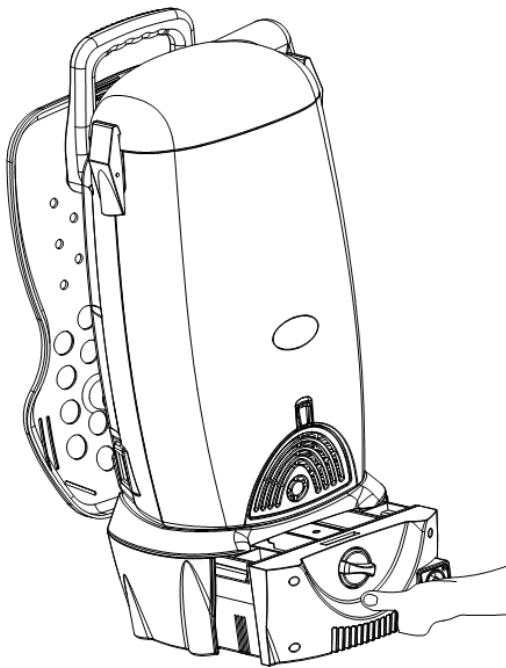

Fig 22
2. **Unlock the battery pack by turning knob counter clockwise and remove battery pack from the vacuum (Fig. 22)**